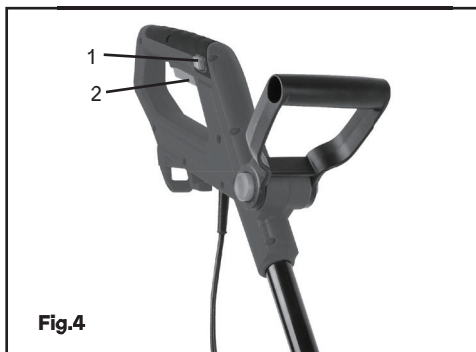

Fig.4
1. Press the lock-off safety switch (1) either all the way to the right or the left and hold (Fig.4).
2. While continuing to press the lock-off switch, squeeze the On/Off trigger switch (2).